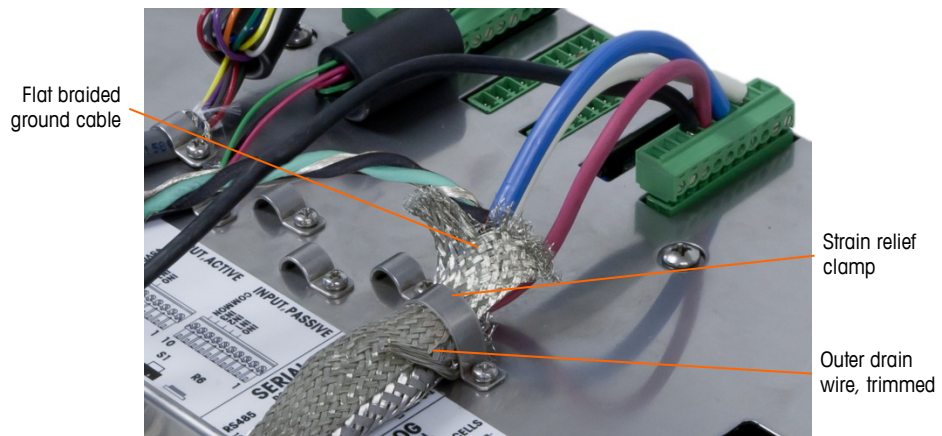

Figure 2-68: POWERCELL PDX Home Run Outer Braid Termination, Panel Mount Enclosure
- b. Slide forward the outer braid to cover over the inner braid and foil. Pull the outer drain wire back over the outer braid and trim it to approximately 25 mm (1 inch). Place the flat braided ground cable around the home run cable and the drain wire before finally securing everything to the back cover of the IND780 using the large strain relief cable clamp provided with the unit (Figure 2-68). The other end of the flat braided cable is terminated at the ground rod.